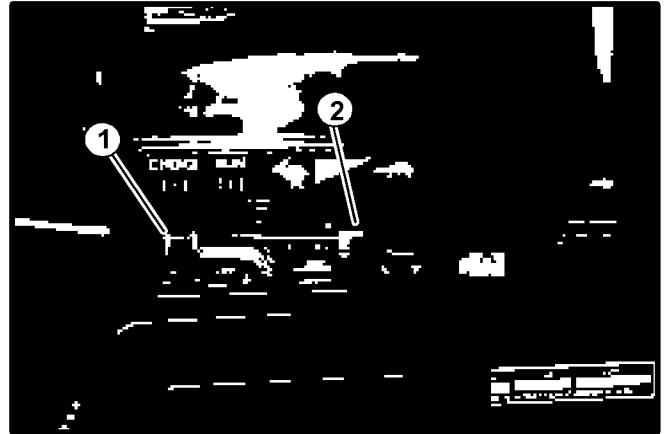

FIGURE 5
10. Set throttle control lever on the handle to second detent near idle position. Start the engine and set throttle lever on the engine at idle speed. Route the cable through the cable stop, throttle arm hole and insert the inner cable into the block clamp on the throttle arm of the engine (See FIGURE 5). Tighten set screw in block clamp.